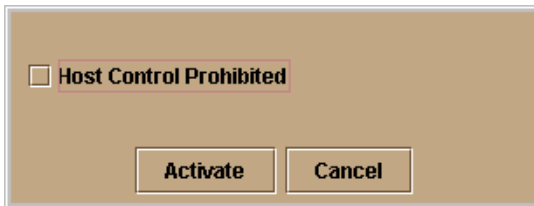

Figure 2–27: Configure Open Systems Management Server dialog box
1. Choose **Configure > Management Server** from the **Product Manager** window. The **Configure Open Systems Management Server** dialog box displays, as shown in Figure 2–27.